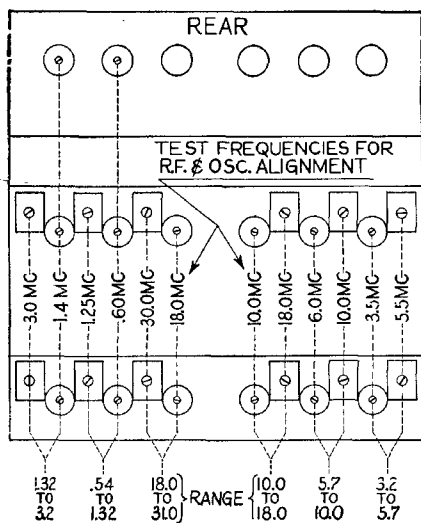

FIG. 10—Chart for R.F. alignment.
R. F. AND H. F. OSCILLATOR: Before attempting to realign these circuits the following instructions should be read through very carefully. As in the case of the I. F. amplifier, these circuits have also been accurately aligned during final inspection and great care has been taken in their design to insure stability and permanence of adjustment. Therefore, they should not be disturbed unless it is absolutely certain that readjustment is necessary. Even in that case, only very slight alterations will be necessary to restore the receiver to its original efficiency. In general, a small fraction of a turn on either inductance adjuster or trimmer condenser will suffice. These adjustments, together with their respective test frequencies, are clearly shown on the chart below (Fig. 10). On the bands from 3.2 mc. to 31 mc. it is extremely important to have the band spread dial set at 200, since that is the setting at which the main dial has been calibrated. Naturally, the alignment of the receiver cannot be more accurate than the source of the test signal. The aligning during final inspection at the factory is accomplished with special test oscillators which are frequently compared with standard frequency crystals. The front row of adjustments shown on the chart in Fig. 10, control the high frequency oscillator circuits and consequently the dial calibration. These adjustments should be disturbed *only* if the calibration of the main dial (with band spread dial at 200) is known to be off. As clearly indicated in the diagram, the inductance should be adjusted at the low test frequency in each band and the trimmer capacitor at the high frequency end. These adjustments mutually affect each other, therefore, if any considerable change is made at one end of a band the other end of the same band must be readjusted. This procedure must be repeated until no further readjustment at either end is necessary.